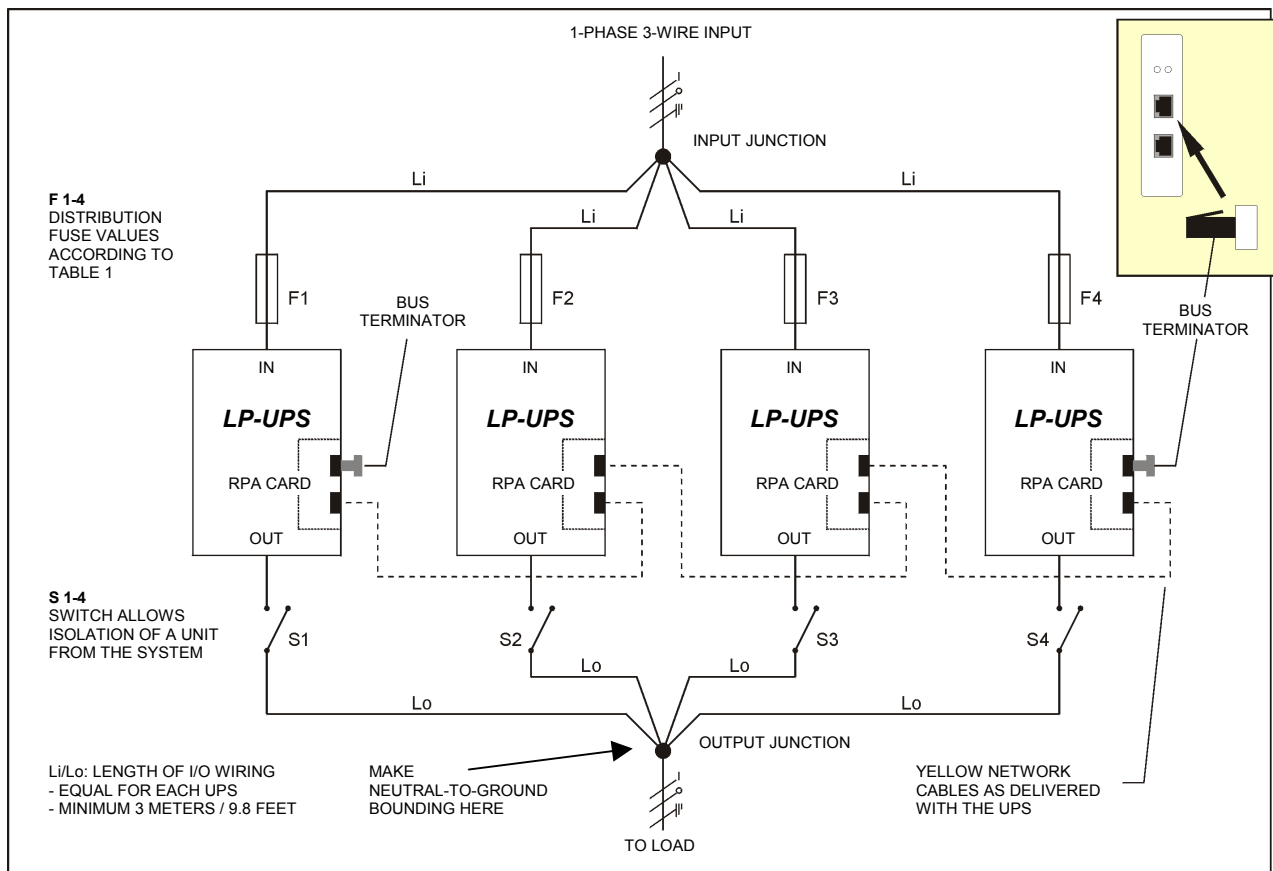

Figure 17. Installation of parallel operating LP-U UPSs
2. All outputs must be connected together, supplying the load. It is advised to install switches (S 1-4, fig. 17) in the output wiring, in order to be able to isolate a unit from the remaining system for service and maintenance purposes. It is advised to make a Neutral-to-Ground bounding in the output junction.
4. The length of all input cables from the input junction (Li, fig. 17) to the UPS inputs should be equal. The same applies to the cables from the outputs to the output junction (Lo, fig. 17). The minimum length of the input as well as the output cables is 3 meters / 10 feet.
- Interconnect the RPA-cards of the units, using the network cable that came with the UPS. See figure 17 (dotted line). Only install the cables that were delivered with the UPSs! Of the first and the last UPS in the system only one RPA-socket is used to interconnect the UPSs. A bus terminator must be placed in the other (free) RPA-socket. The required bus terminators have been delivered with the unit.
2. Remove the installation fuse from the input of that UPS (F1-4 in figure 17),
3. Separate the output of the UPS from the output junction (S1-4 in figure 17).